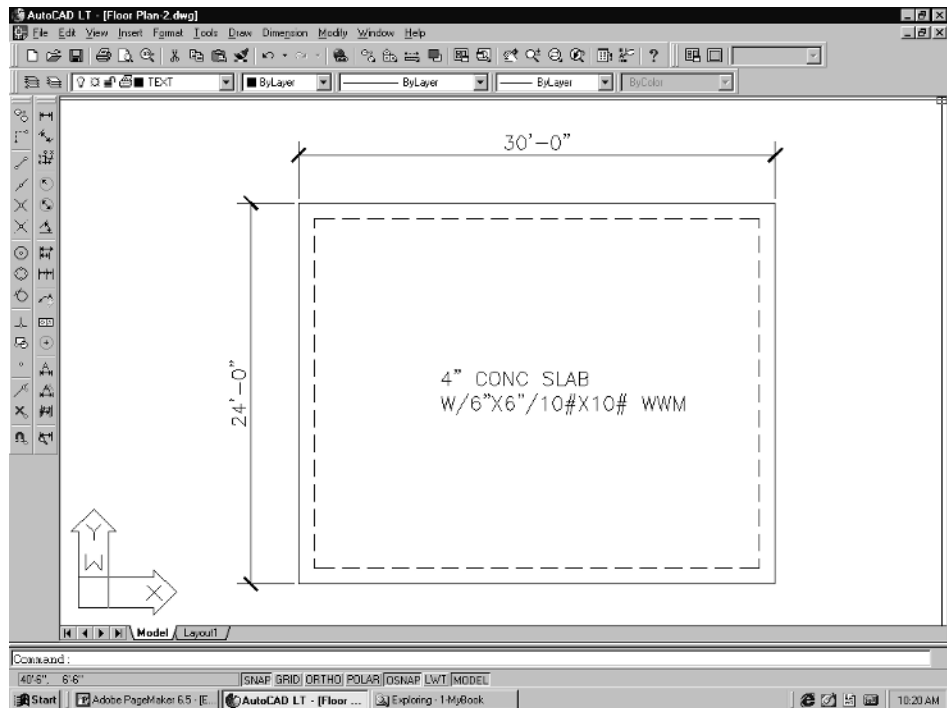

Figure 3-11
11. The text box created by the MText command can be stretched so that the text fits better. To do this, pick on the text and then pick one of the “grips” and pull with your cursor. See Figure 3-11.